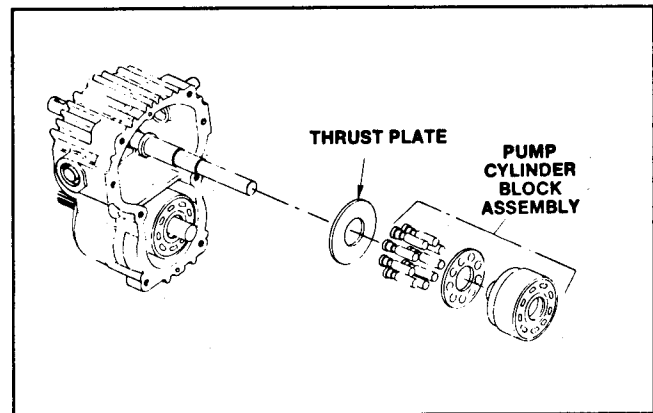

Figure 50
13. Lubricate the thrust plate and insert it into the counterbore of the variable position swash plate (Fig. 50). Slide the pump piston group over the pump shaft and engage the splines. Be certain that the pistons and the thrust plate remain in place. When properly installed, a slight spring tension can be felt when pushing against the cylinder block.